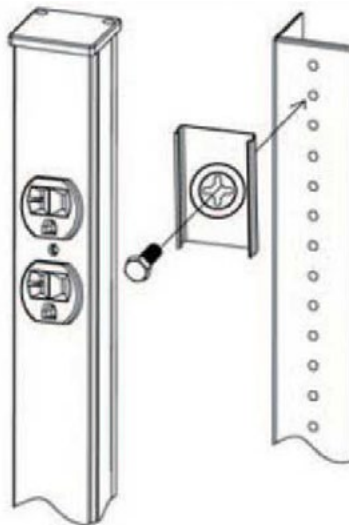

FIGURE 3
1. Attach the two (2) XPDU vertical mounting brackets (included) using four (4) retaining screws (included) see Figure 3.